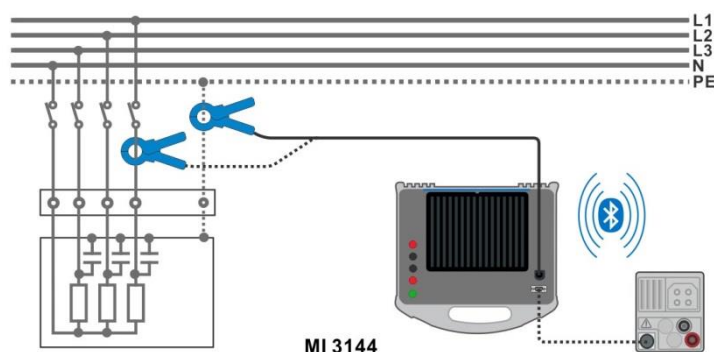

Figure 7.86: Current Clamp Meter measurement
- Connect MI 3152(H) instrument with MI 3144 Euro Z instrument via serial RS232 or pair them using Bluetooth communication. See chapter **4.6.5.1 Configuration of measuring adapters**.
- Check Bluetooth communication active sign if MI 3144 Euro Z 800 V instrument is connected to MI 3152(H) instrument via Bluetooth communication.
- Wrap the object under test with the measuring clamp. See **Figure 7.86**. Refer to *MI 3144 Euro Z 800 V Instruction manual* for detailed information.